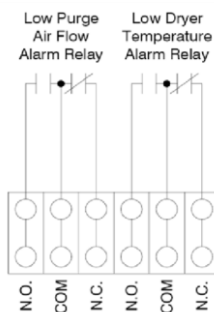

Figure 20
- Refer to Figure 20. For external connection, the second set of contacts in each relay is “dry”. No power is applied. This allows the user to determine the control voltage that will be used. A typical use of the alarm signal, as described above, is to control sample flow. The actual use is left up to the customer.